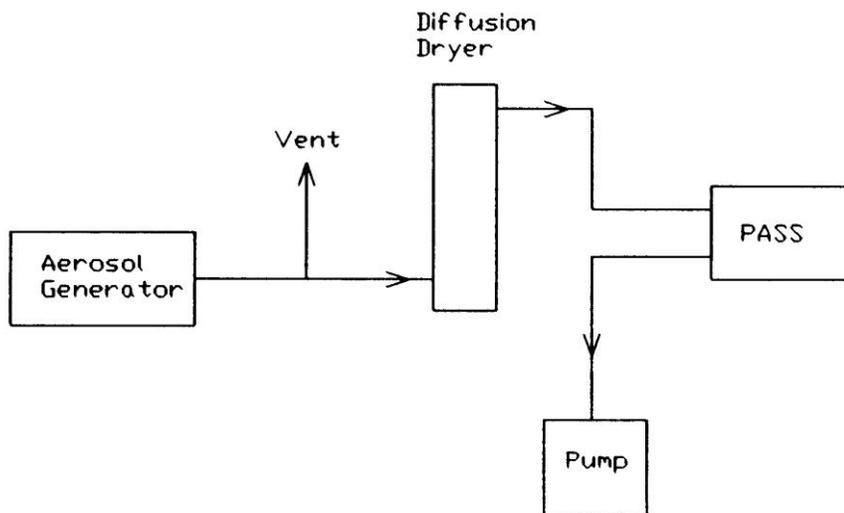

Figure 5: PASS-3 Flow Calibration Set-up
The following calibration procedure assumes that the scattering option is installed in the PASS-3. (All current versions of the PASS-3 are configured with scattering.) Otherwise, a nephelometer will need to be run in parallel with the PASS-3 during the absorption calibration. Figure 5 shows the typical flow system for PASS-3 calibration.
5. Collect two to four minutes of data with the PSL particles into the PASS-3 with two of the three lasers shut off. Figure 5 gives a diagram of the setup for introducing the PSL particles into the PASS-3.